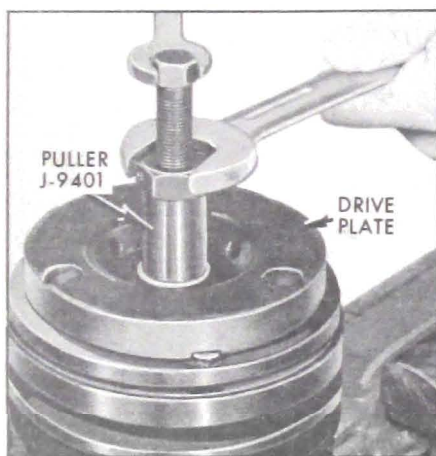

Figure 11-96—Removing Drive Plate Assembly
2. Screw threaded hub puller J-9401 into the drive plate hub. Hold body of tool with a wrench and tighten the center screw to remove drive plate assembly. See Figure 11-96.